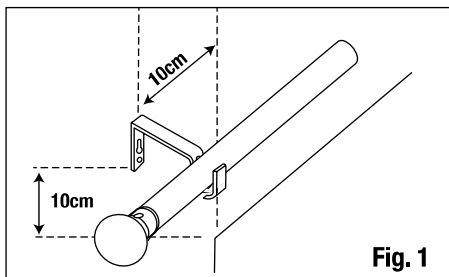

Fig. 1
- Hold pole up to the window and centralise over width to determine correct position and length. The ideal position for the brackets is 10cm (4") above the window and 10cm (4") out from the edge of the window (fig.1). Remember to allow sufficient length either side to accommodate the curtains when opened.